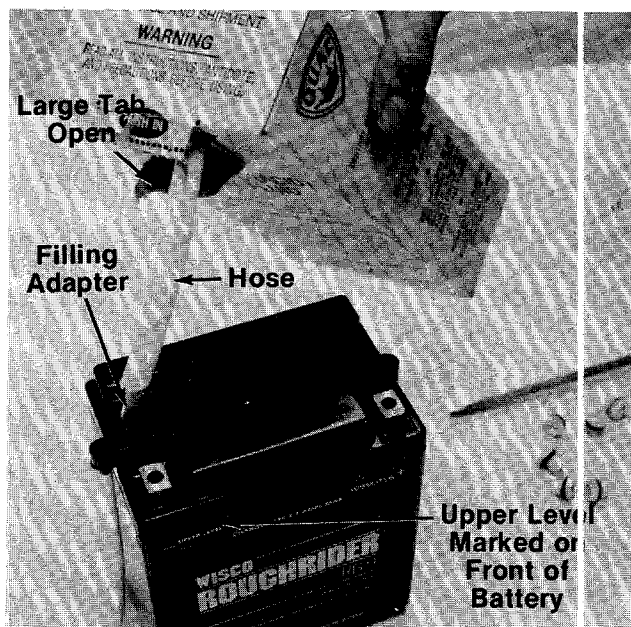

FIGURE 16.
6. Pull out hose from package and hold upright. Squeeze hose forcing all acid back into package. Cut off tip of hose and insert filling adapter. See figure 16.
7. Fill each cell to upper level marked on front of battery. Replace fill caps on battery. See figure 16.